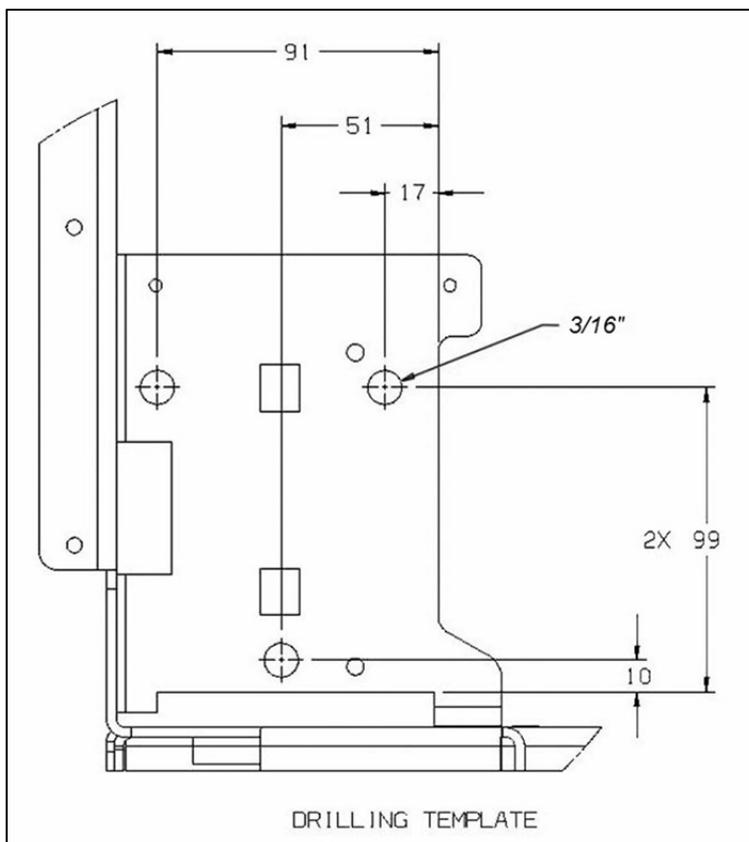

FIGURE 14: DRILLING
13. On a working table, mark hole locations as shown on Figure 14. Use relay base as a template.